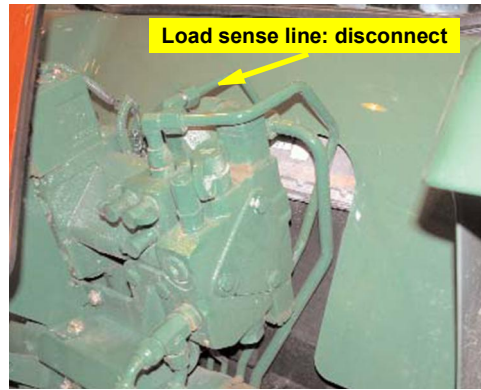

Figure 6b: Disconnecting the load sense line
b. Locate the tractor's metal load sense line on top of the hydraulic valve stack and disconnect it from the elbow fitting in the casting (Figure 6b).